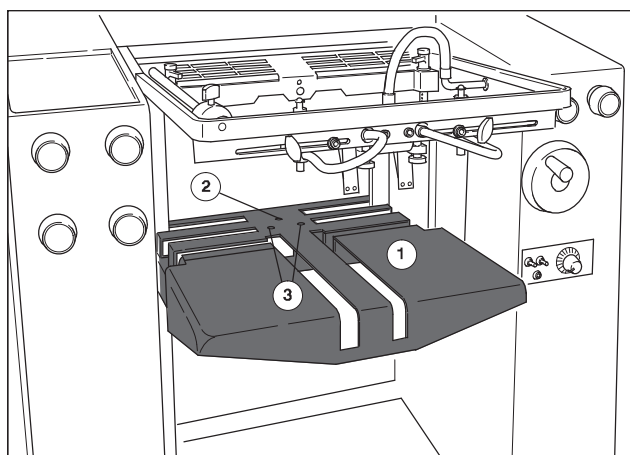
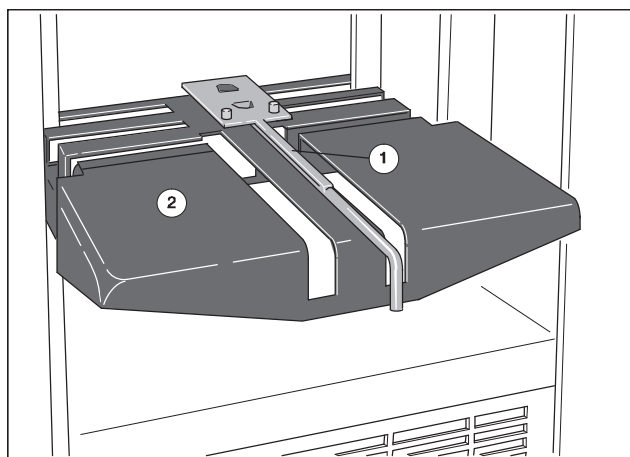

Fig. 42 Feeder pile board
Fig. 43 Inserting the inclinable feed table
1. Use the crank handle to lower the feeder pile board (Fig. 42/1) until it is accessible from below.
3. Insert the pins at the bottom side of the base plate of the inclinable feed table into the two boreholes in the feeder pile board (Fig. 42/3).
4. Push the wing screw through the borehole in the feeder pile board from below (Fig. 42/2) and screw down the feed table (Fig. 43/1) on the feeder pile board (Fig. 43/2).